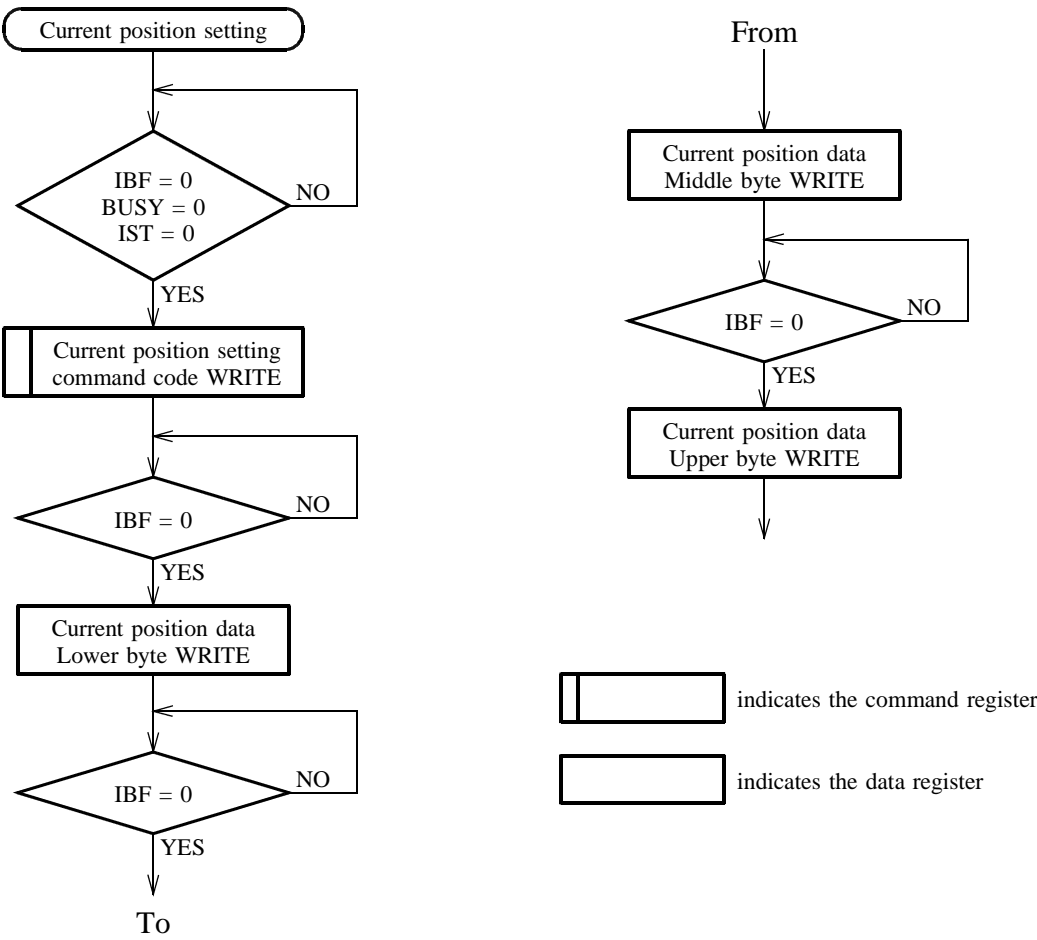

Fig. 3-53 (Flow chart of current position setting command)
**Fig. 3-53** is a flow chart indicating the flow of issue of the current position setting command.